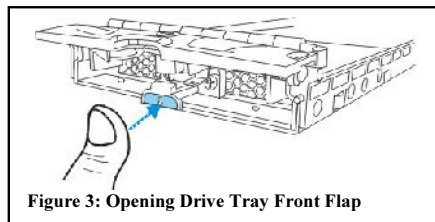

Figure 3: Opening Drive Tray Front Flap
2. Open the front flap on the drive tray by pushing the button on the front of the drive tray in an upward direction. The button is easy to access. (See *Figure 3*)